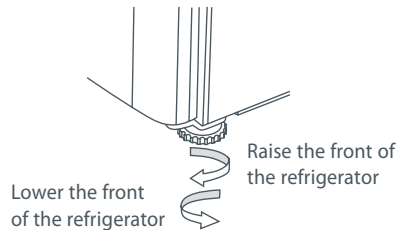

Fig.11 Refrigerator feet
- C** Adjust the front feet down until the refrigerator is leaning backward with the front approximately 10 mm (½") higher than the back. This will ensure a good door closing action. (Refer to Fig.11).